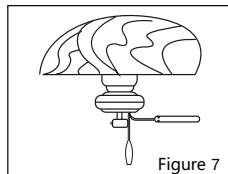

Figure 7
2. Align the holes on the T shaped part with the holes on the motor and lock the screws tightly (See Figure 7).